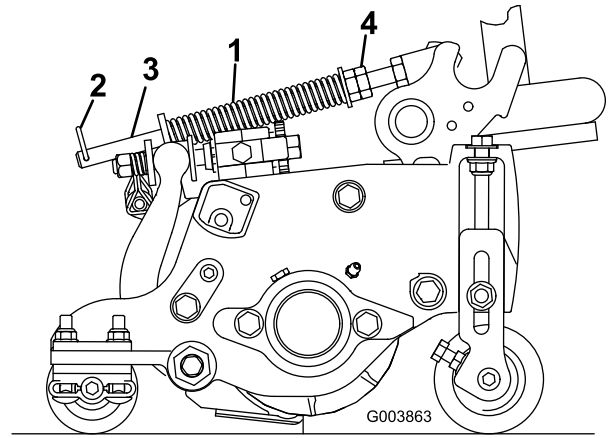

Figure 14
2. Tighten the hex nuts on the front end of the spring rod until the compressed length of the spring is 15.9 cm (6.25 inches) as shown in Figure 14.
The turf compensation spring (Figure 14) transfers weight from the front to the rear roller, helping to reduce a wave pattern in the turf, also known as marcelling or bobbing.
1. Ensure that the hairpin cotter is installed in the rear hole in the spring rod (Figure 14).